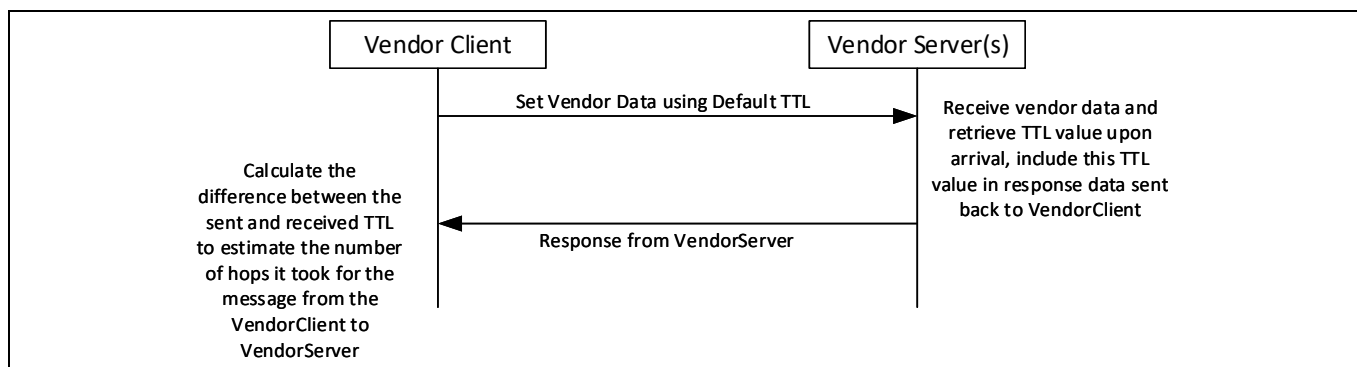

Figure 5 Indirect/Round-trip Approach
- When the MeshVendorServer receives the message from the VendorClient, it can recognize the TTL value in the received packet and echo the value back to the VendorClient as a vendor message. Upon receiving the response back from the VendorServer, VendorClient can obtain the TTL value that the VendorServer received and evaluate the difference between the original TTL value that was sent and the TTL value that the VendorServer received. This will provide the number of hops it took for the message to traverse the mesh network from the VendorClient to the VendorServer as shown in Figure 5.